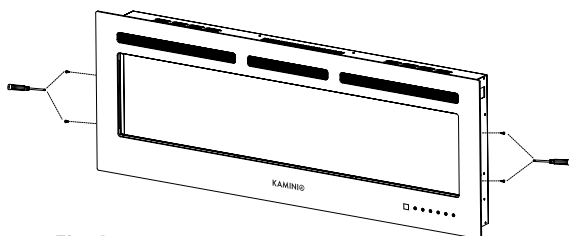

Fig. 8
2. Place the unit with the front facing up on a soft, flat surface. Remove the screws located on both sides of the front glass panel (see figure 8). Keep the screws for reinstalling the glass panel.